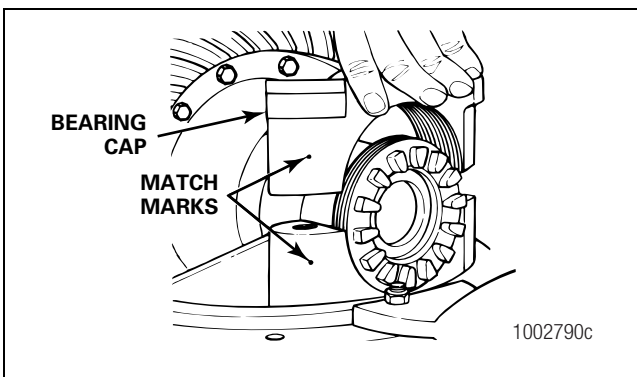

Figure 5.52
7. Install the bearing caps over the bearings and adjusting rings. Align the match marks you made when you removed the caps. Figure 5.52.